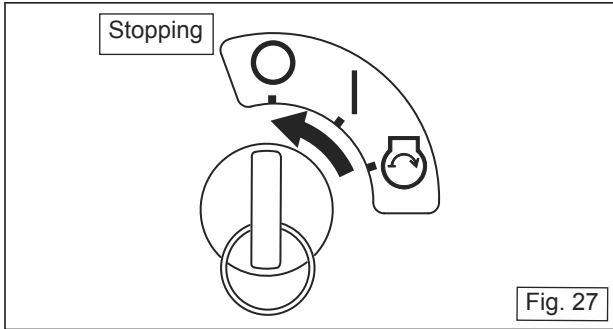

Fig. 27
3. Once the engine stops turn the key switch to the stop position. (Fig. 27) The buzzer sound will stop when in the stop position.